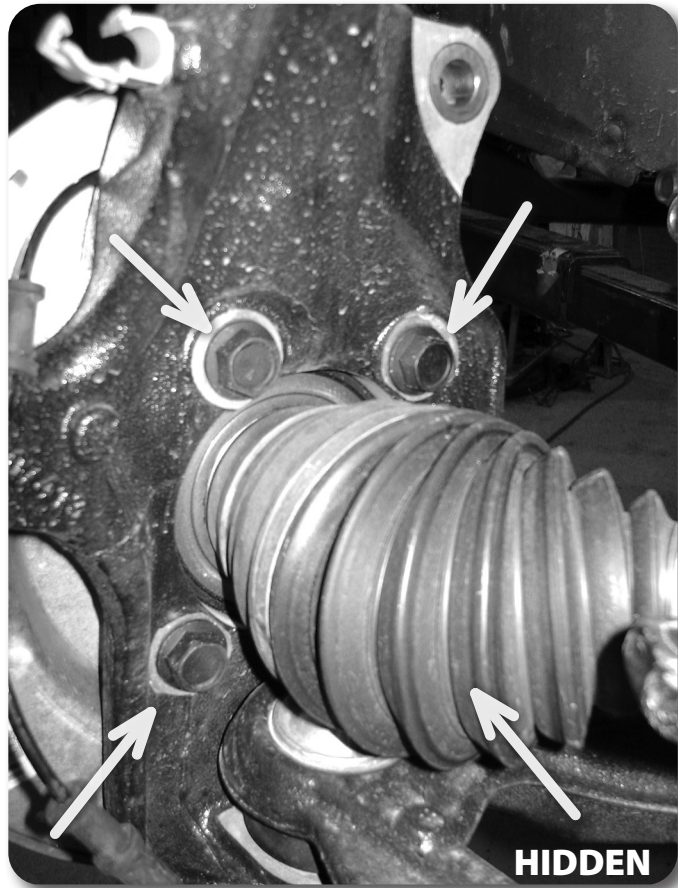

Figure 10
19. Locate and remove the four hub bearing assembly bolts Figure 10. The bolts are accessed from the back side of the steering knuckle. Remove the hub bearing assembly and dust shield from the steering knuckle.